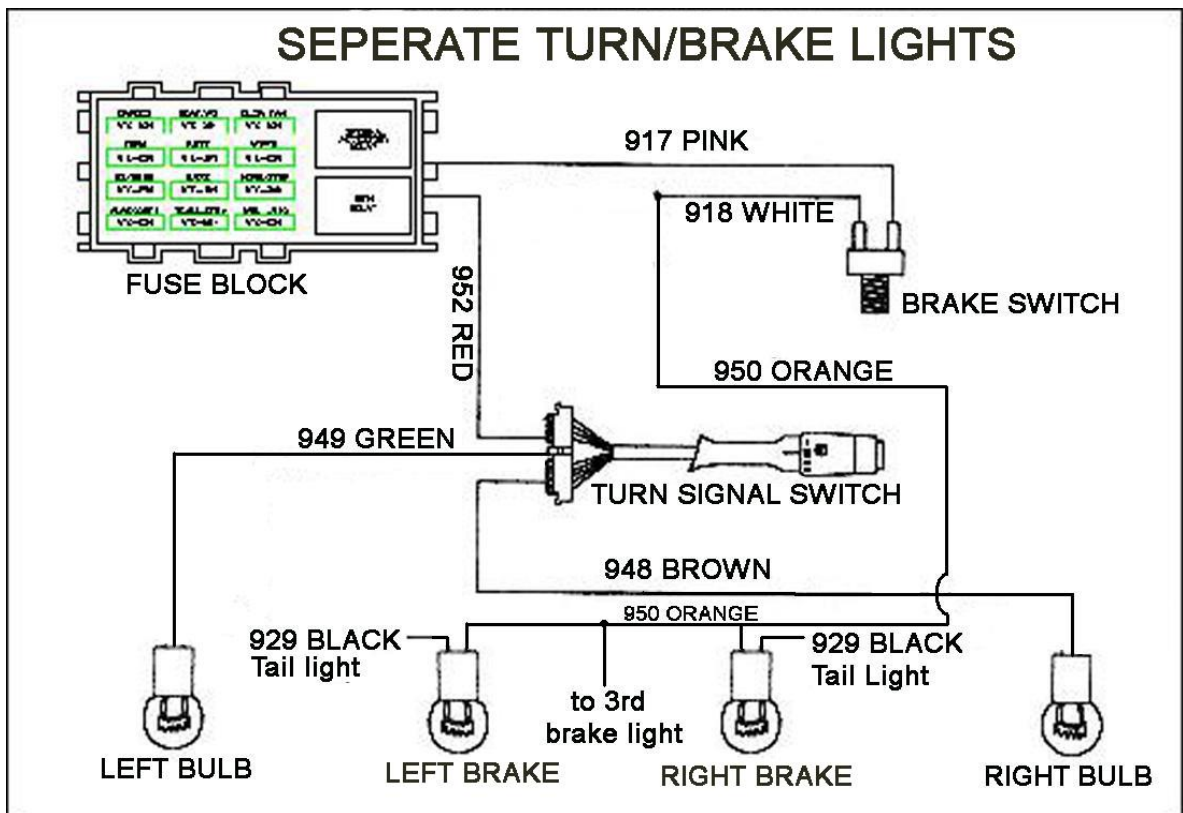

Figure 8-7B Separate Turn/Brake Lights
- Note A:** *If you have Integrated Brake Lights you must use bulbs that have two (2) filaments in them such as in an 1157 bulb.*
- Note D:** *The white wire (#918) in the Turn Signal section will **not** be connected to the turn switch when using separate turn lights and brake lights. See figure 8-7B*